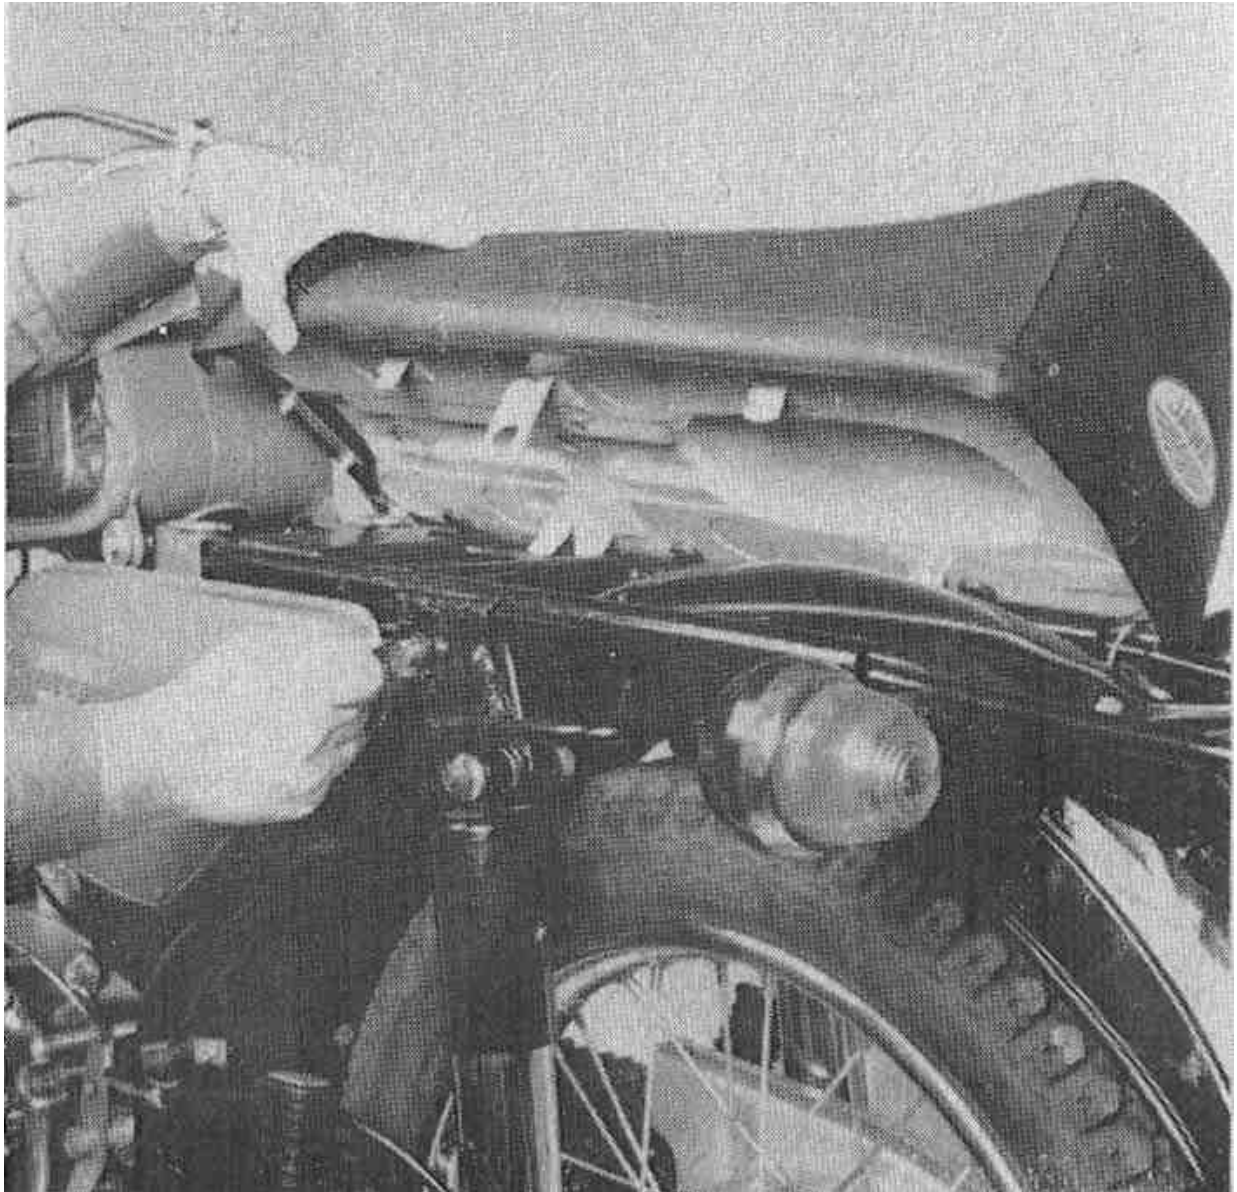

Fig. 40 – Removal of seat and lock
14. REMOVAL OF LOCK FROM HEAD AND SEAT (Fig. 40)